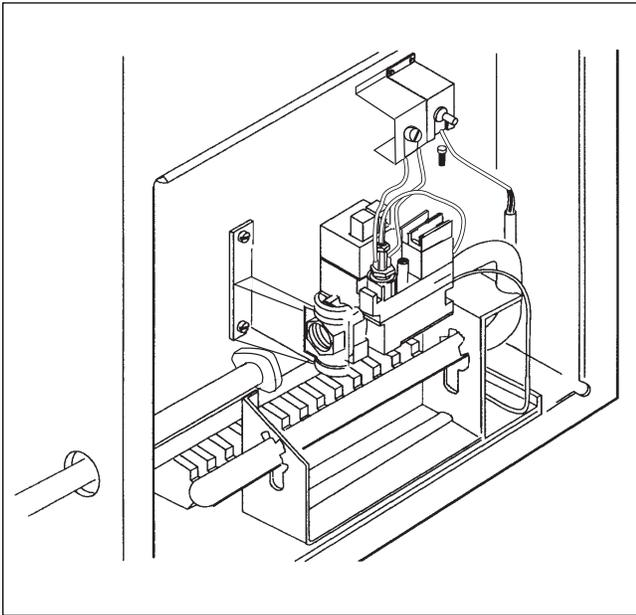

Figure 25. Gas valve removal.
4. Unscrew the screws that fasten the gas inlet flange to the gas valve (see Fig. 25).
2. Unscrew the screws that fastens the gas inlet flange to the gas valve (see Fig. 25).